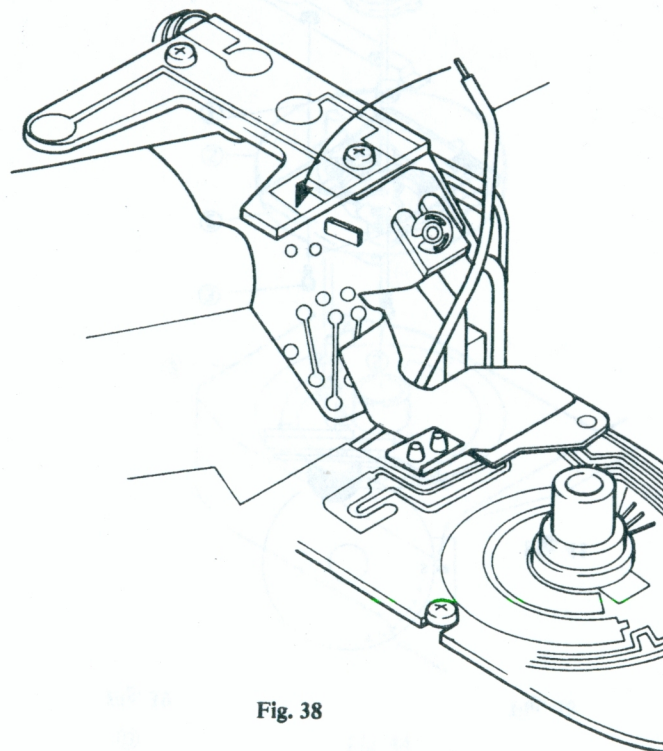

Fig. 38
- 3) Fix **BROWN LEAD WIRE** as shown in Fig. 38.